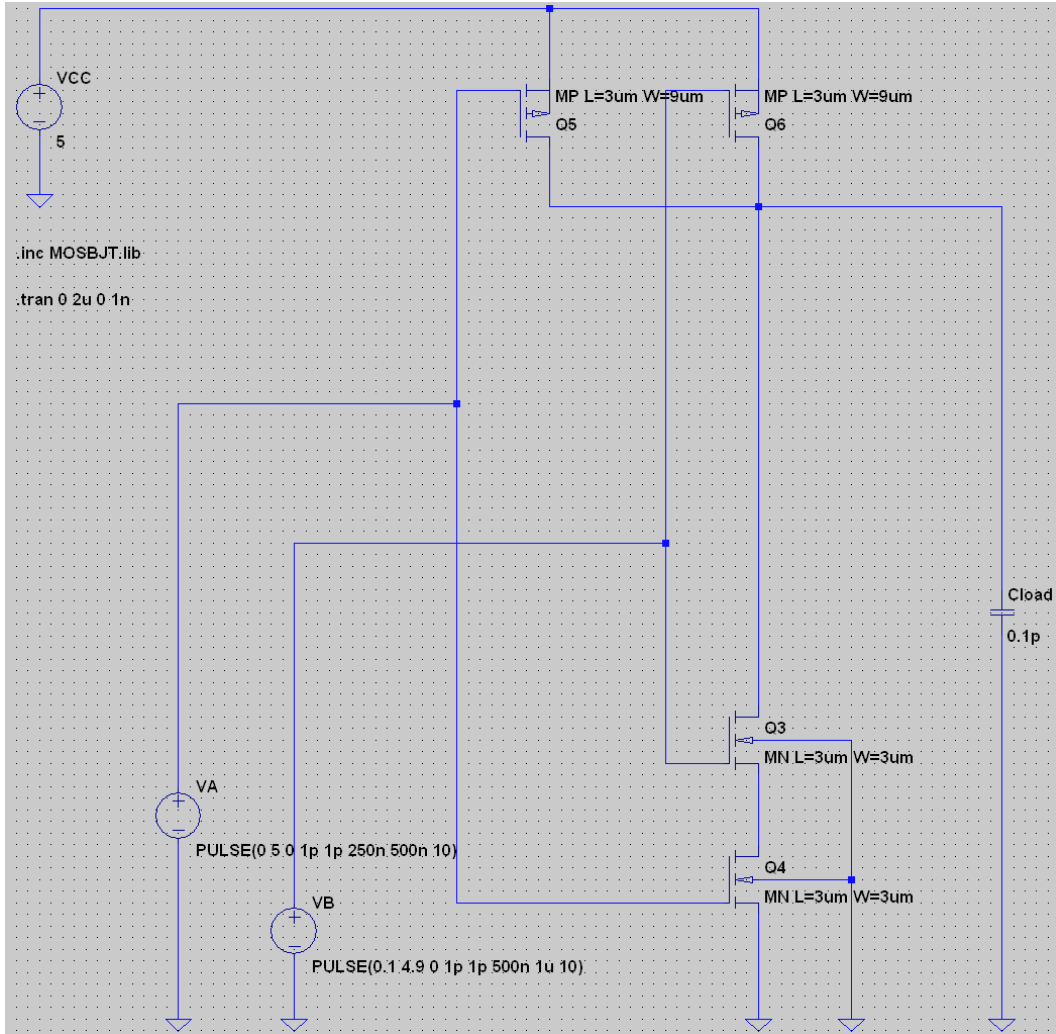
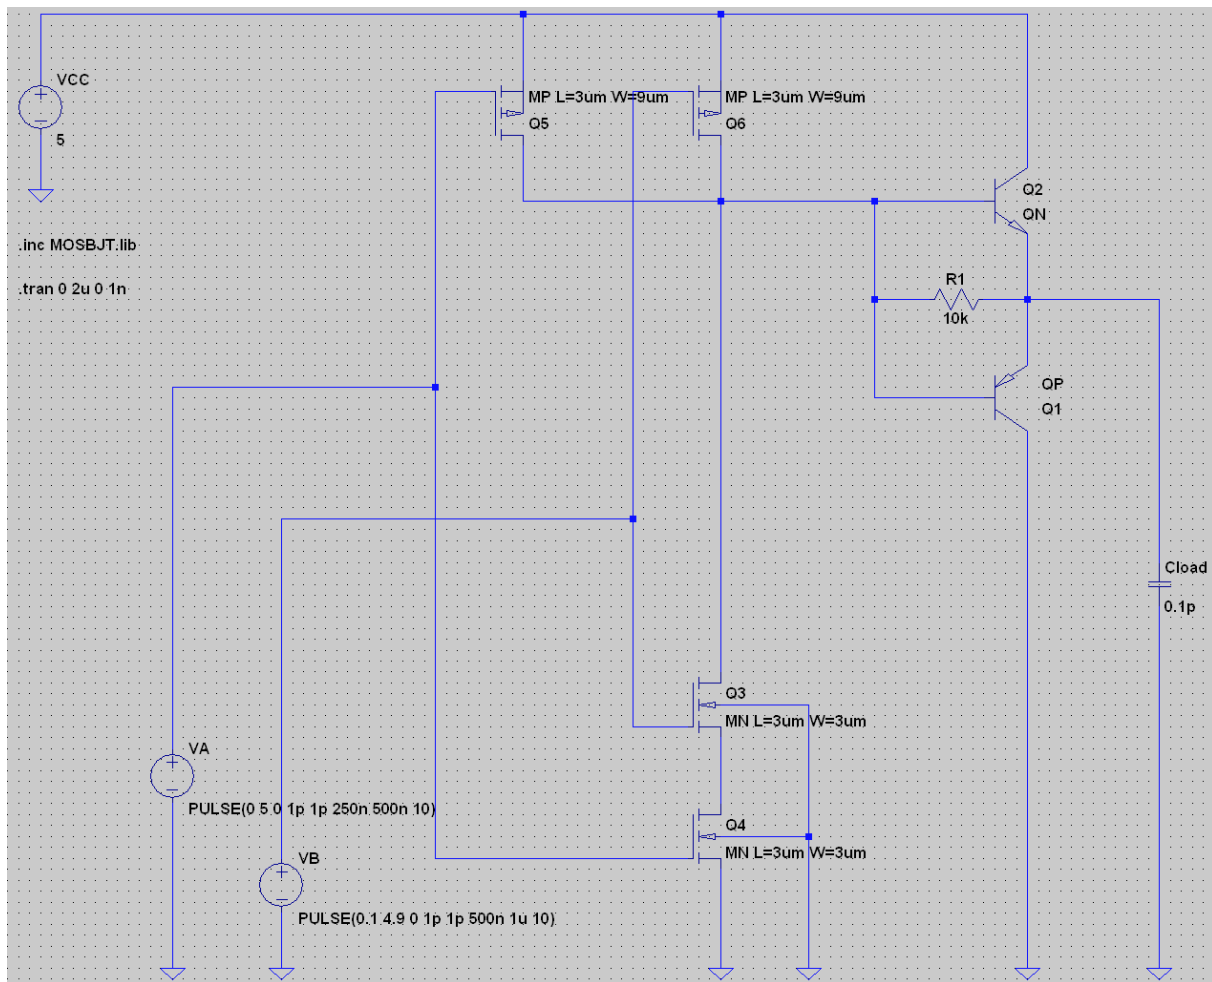
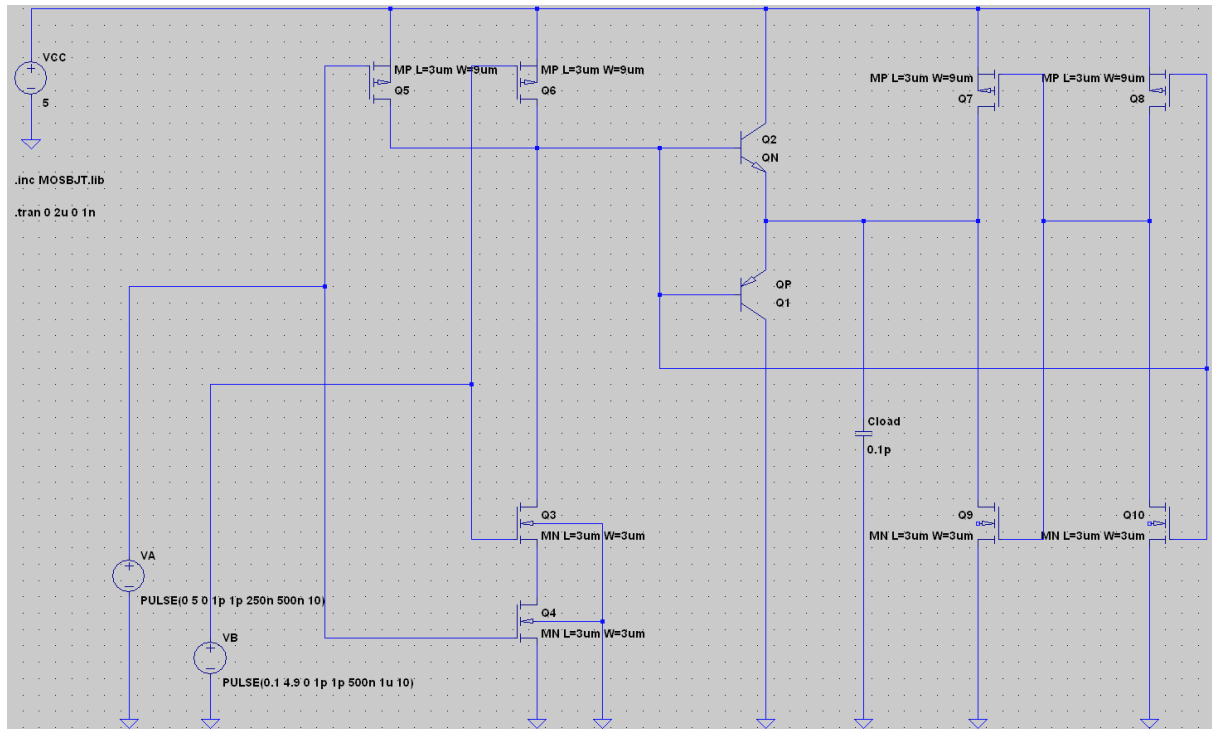

Figure 8: CMOS logic function (Schematic BiCMOS-0).
Figure 9: BiCMOS logic gate with push-pull output stage (Schematic BiCMOS-1).
Figure 10: BiCMOS logic gate with push-pull output stage and auxiliary inverters (Schematic BiCMOS-2).
A schematic of the CMOS logic function to be implemented in the various BiCMOS logic gates of interest is shown in Figure 8. The first objective is to capture this schematic, determine the CMOS logic function by simulation, and to understand the ability of CMOS logic gates to drive capacitive loads.
Make sure you save this file in the same location as your schematic BiCMOS-0 created above. In order to include these models in your schematic, add a SPICE directive to your schematic by selecting **Edit > Text**. Select the **SPICE directive** option, and enter `.inc MOSBJT.lib` in the text window provided. Select any location on your schematic to add this directive (and click the mouse button to complete the operation). Using these new models, construct the CMOS logic gate circuit shown in Figure 8. In specifying the model to be used for each MOSFET, ensure that you include the dimensions provided, as these are employed by SPICE in the simulation. In particular, the models for the n-channel and p-channel MOSFETs should be recorded as “MN L=3um W=3um” and “MP L=3um W=9um” respectively, without the quotes. (Note that these dimensions refer to the gate length and width for each MOSFET, and hence are vital to determining capacitance and resistance of each device.)
Using the CMOS logic function of Figure 8, a BiCMOS gate may be constructed by cascading a BJT push-pull output stage at the output, as shown in Figure 9.
- 5.2.1. With your previous schematic saved, create a copy by selecting **File > Save As** and using the new schematic name **BiCMOS-1**. Modify your schematic by adding the BJT output stage as shown in Figure 9. Confirm that the logic function of this BiCMOS gate is retained from the CMOS logic function of Figure 8.
- 5.2.2. Repeat Task 5.1.3 above and compare the performance of the logic gates of Figures 8 and 9 based on their ability to drive capacitive loads. **Explain any performance improvement observed**, and what tradeoffs (if any) have been made in establishing this improvement.
- 5.2.3. What is the purpose of resistor R1 in the BiCMOS logic gate of Figure 9? Justify your answer by observing the effect of varying its value. (HINT: try observing the steady state **HIGH** and **LOW** output voltages with and without resistor R1.)
Based on the schematic of Figure 9, a revised BiCMOS logic gate design that does not employ resistor R1 is illustrated in Figure 10.
- 5.3.1 Again with your previous schematic saved, create a copy by selecting File > Save As and using the new schematic name BiCMOS-2. Modify your schematic by modifying the output stage as shown in Figure 10. Plot the input and output voltages for the inputs specified in the schematic. **Confirm that the logic function this BiCMOS gate is retained from the original CMOS logic function of Figure 8.**
- 5.3.2 Compare the steady state HIGH and LOW output voltages generated by the BiCMOS logic gates of Figures 8, 9 and 10. Determine the purpose of the auxiliary CMOS inverters implemented by Q7 – Q10 in Figure 10.
- 5.3.3 Determine the instantaneous power delivered by the supply rails in this circuit. How does the power dissipation of this BiCMOS logic gate compare with the CMOS logic function of Figure 8?